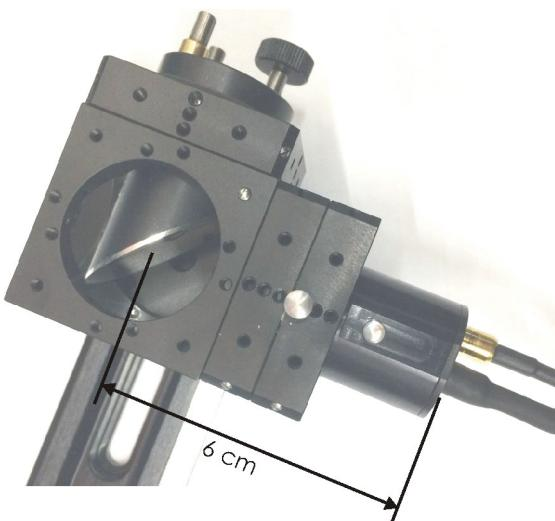

Figure 44 Positioning the photomixers
- 1.1 Place the photomixers in their mounts, so that the rear side of the photomixer housing is approx. 6 cm away from the center of the mirror. When correctly positioned, the full length of the flattened part of the cylindrical housing just about protrudes out of the mount (see Figure 44 and NOTE ! below). Make sure that the angular orientation of both photomixers is the same, i.e. the polarization is either vertical or horizontal. The polarization axis is indicated by two small grooves on the front side of the housing (see Figure 22). Fix the photomixers with the locking screws (1).
NOTE ! Figure 44 shows the correct position of the photomixers. However, the initial alignment becomes easier if the photomixer modules are pushed further in, so that the thread is approx. half-covered. Once the alignment is optimized for frequencies up to 500 GHz, pull the antennas further out and optimize the alignment at 1000 GHz.